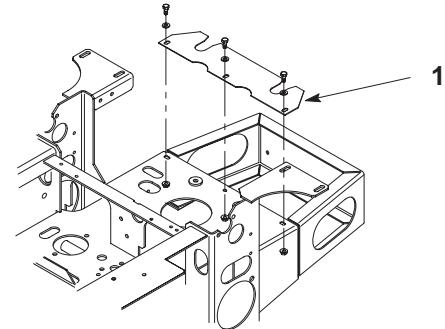

Figure 4
1. Remove the existing flat heat shield and discard heat shield and hardware (Fig. 4).
3. Remove the existing flat heat shield and discard heat shield and hardware (Fig. 4).